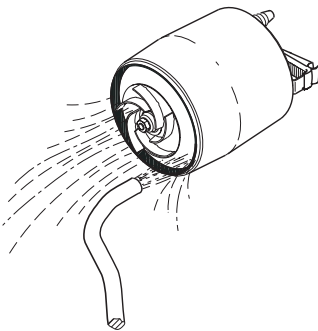

Fig. 9
3. Clean and flush the pump with water to remove possible impurities between the motor and the outer casing. Clean the impeller, see fig. 9.